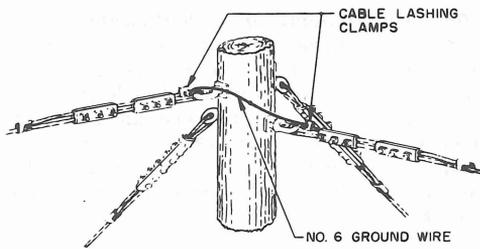

Fig. 23—Maintaining Strand Continuity at Corners
4.10 Continuity of suspension strand must be maintained. Any break in strand continuity shall be bridged with a permanent bond as shown in Fig. 23.